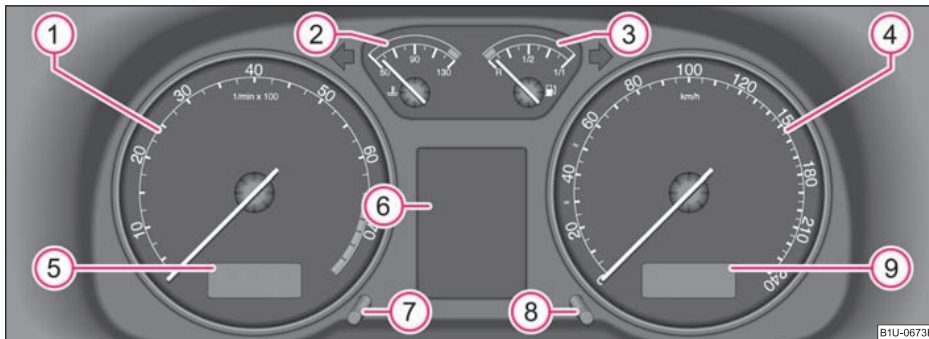

Fig. 18 Instrument cluster
The start of the red zone in the revolutions counter ① ⇒ fig. 18 indicates the maximum permissible engine speed for all gears for an engine which has been run
The coolant temperature gauge ② ⇒ fig. 18 operates only when the ignition is switched on. ►
The fuel gauge  ⇒ page 16, fig. 18 only operates when the ignition is switched on.
The service interval display can also be reset with the reset button  as follows ⇒ page 16, fig. 18:
A clock-set button  is installed on the bottom left beside the speedometer for adjusting the clock ⇒ page 16, fig. 18.